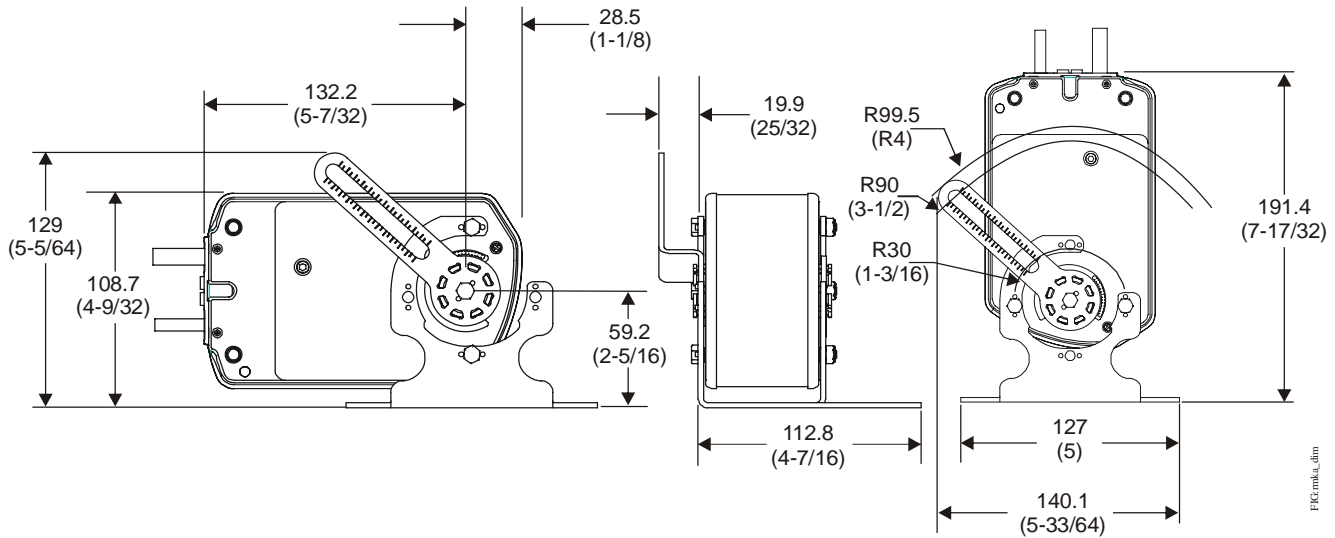
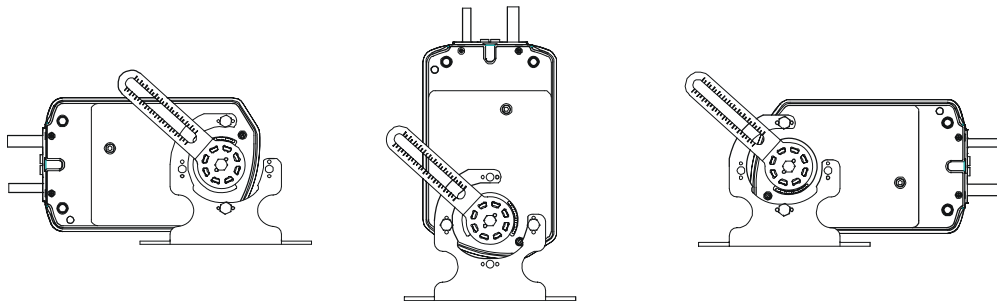

Figure 2: M9208-100 Remote Mounting Kit Overall Dimensions, mm (in.)
Figure 3: M9208-100 Remote Mounting Kit with Actuator, Horizontal Left, Vertical, and Horizontal Right
See Figure 2 and Figure 3 for overall dimensions and proper mounting orientations.
The actuator has two general mounting positions, horizontal and vertical, but can be mounted in six different ways: horizontal left, vertical, and horizontal right, and all of which have the option of side A or side B direction. See Figure 3.
4. Using two M5 cap screws, secure the actuator to the mounting bracket as shown in Figure 2 and Figure 3. The raised buttons on the mounting bracket are used for anti-rotation of the cap screw, allowing installation with only one wrench. Install the M5 nylon insert hex nuts using the recommended torque of 1.7 to 2.3 N-m (15 to 20 lb-in.).